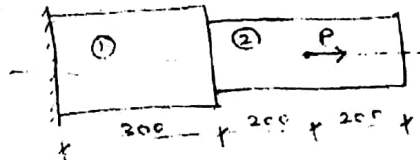

Fig. Q4 (a)
- b. A plane truss shown in Fig. Q4 (b), determine nodal displacements, stresses in each element and reaction at supports.